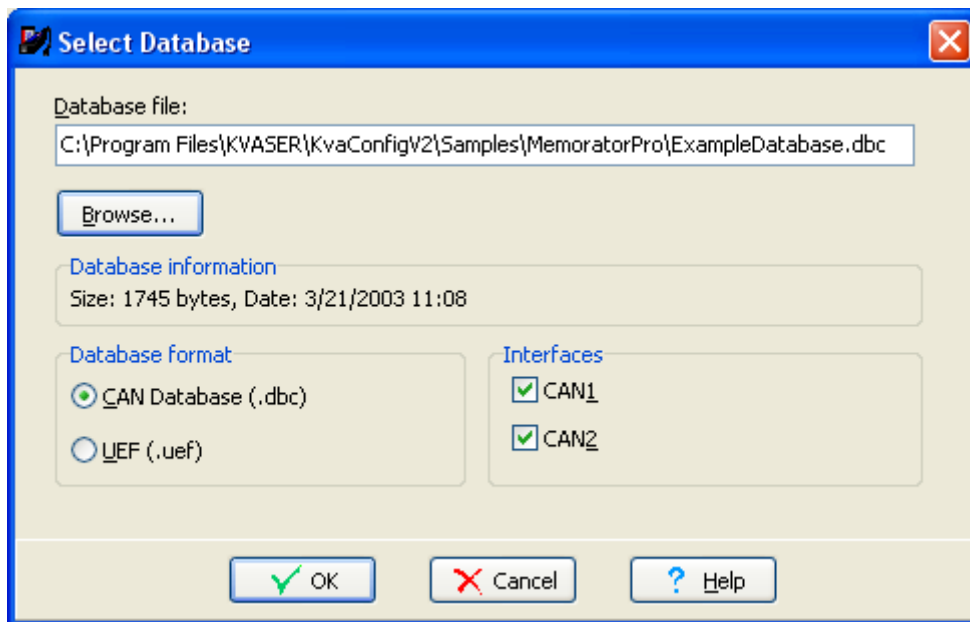

Figure 2. Add Database.
- Click at the *Add* button. The *Select Database* window will be shown. See Figure 2.